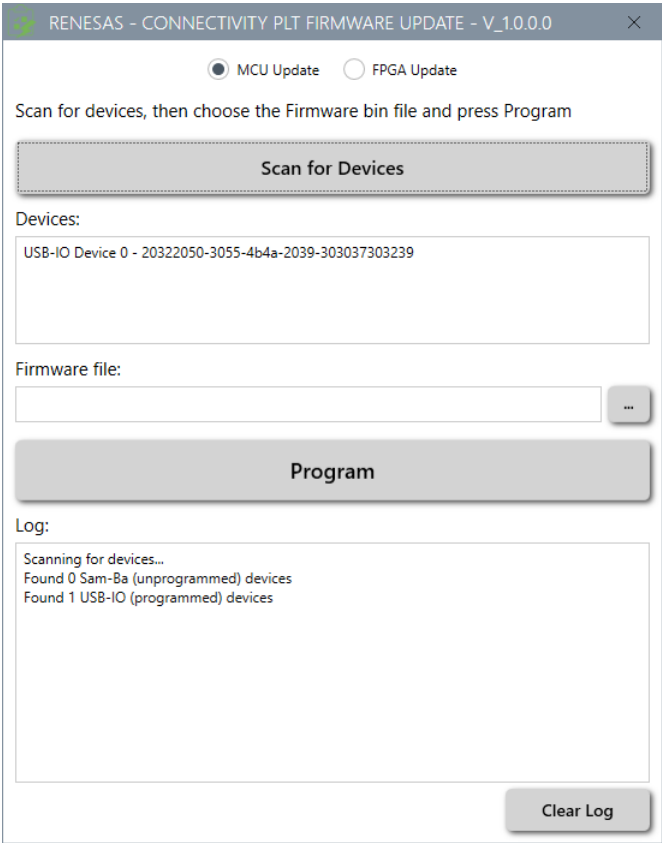

Figure 132. Device detection
2. If the hardware is connected correctly, you should see from one to four USB-IO devices corresponding to each connected PLT board, see Figure 132.